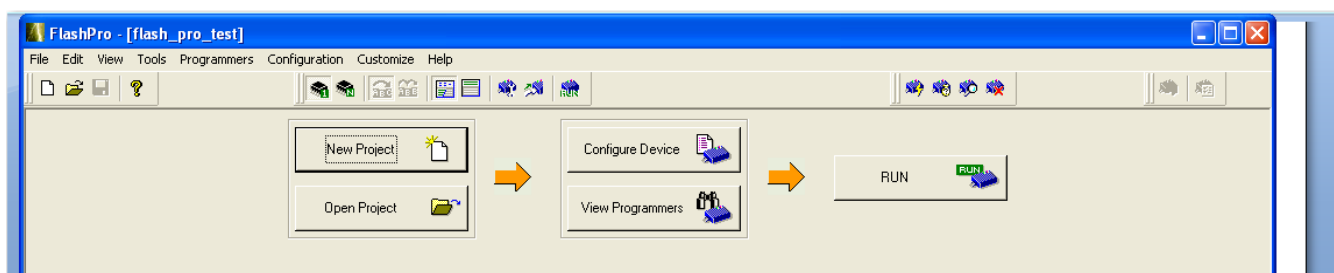

Figure 2-3 · Configure Device Button
2. Click the **Configure Device** button (Figure 2-3).